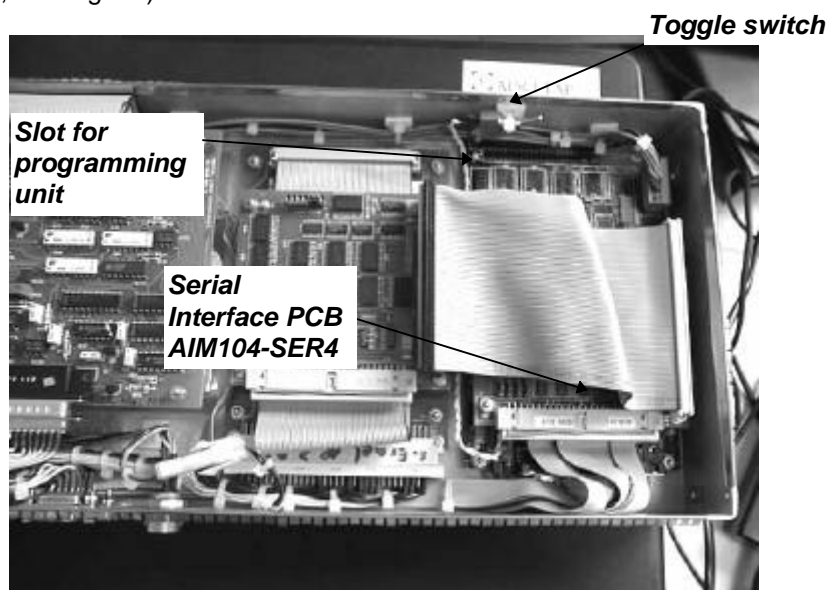

Fig. 17: PCB
- ⇒ Plug the programming unit SVIF1 into PL3 of the ARCOM CPU board (top right, see Fig. 17) .